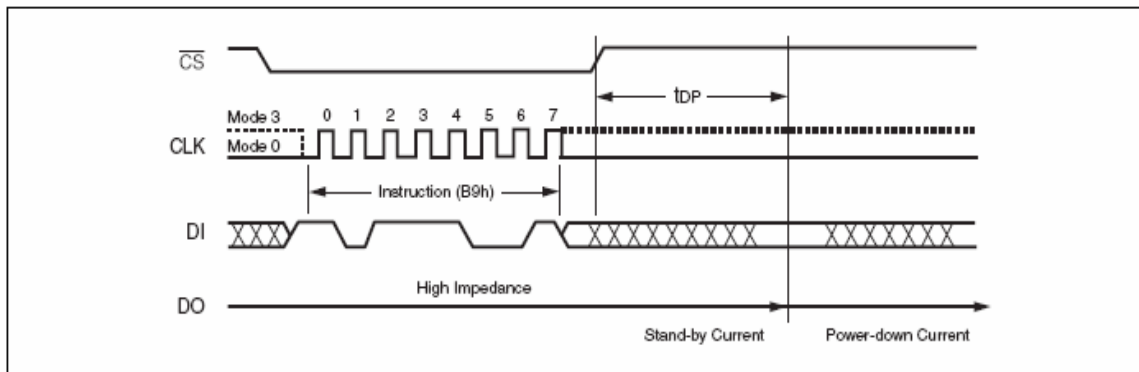

Figure 15. Deep Power-down Instruction Sequence Diagram
The instruction sequence is shown in Figure 15..Chip Select (CS#) must be driven High after the eighth bit of the instruction code has been latched in, otherwise the Deep Power-down (DP) instruction is not executed. As soon as Chip Select (CS#) is driven High, it requires a delay of t_{DP} before the supply current is reduced to ICC2 and the Deep Power-down mode is entered.